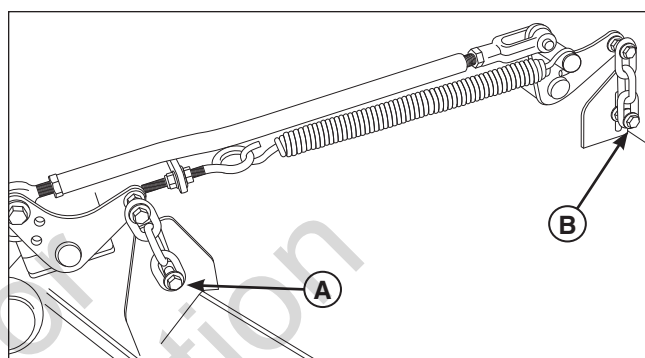

Figure 39. Hanger Chain Adjustment
4. Loosen the nuts and allow the front of the deck to rest on the 2 X 4's. Slide the chains down in the slots until the chains are tight and tighten the nuts. See Figure 39.
5. Loosen the nuts and allow the rear of the deck to rest on the 2 X 4's. Slide the chains down in the slots until the chains are tight and tighten the nuts. See Figure 39.